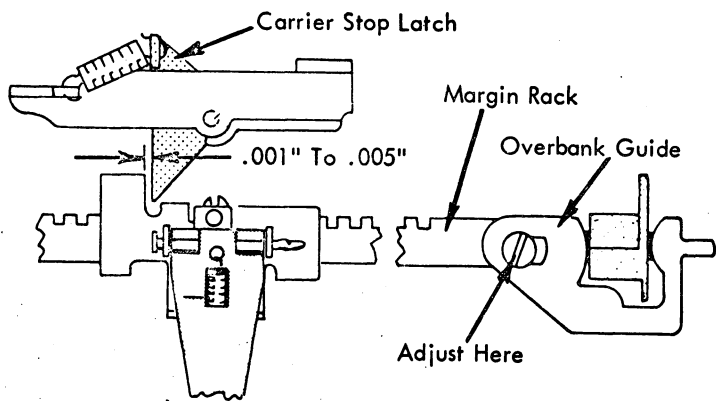

FIGURE 245. Margin Rack Overbank Guide
- Margin Rack Overbank Guide - With the carrier resting at the left hand margin, adjust the overbank guide (Fig. 245) left or right on the margin rack to obtain $.001''$ to $.005''$ clearance between the margin stop and the margin stop latch on the carrier when the margin rack is in its rest position (Fig. 245). When observing this clearance remove the floating action of the margin stop latch by pulling the stop latch to the right with a spring hook.